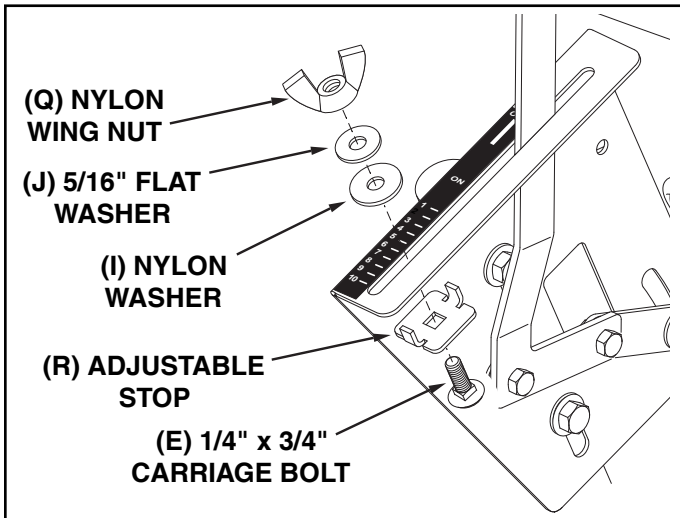

FIGURE 12
22. Place the adjustable stop (R) into the "ON" end of the slot in the top of the flow control mounting bracket. Secure with the 1/4" x 3/4" carriage bolt (E), a nylon washer (I), a 5/16" flat washer (J) and the nylon wing nut (Q). See figure 12.